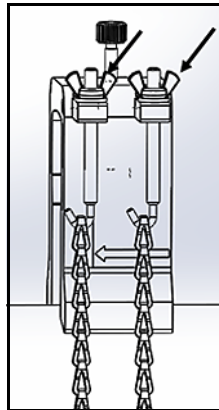

Figure 40: Secure the Yoke
7. Tighten the nuts to secure the yoke to the pipe (see *Figure 40* below).